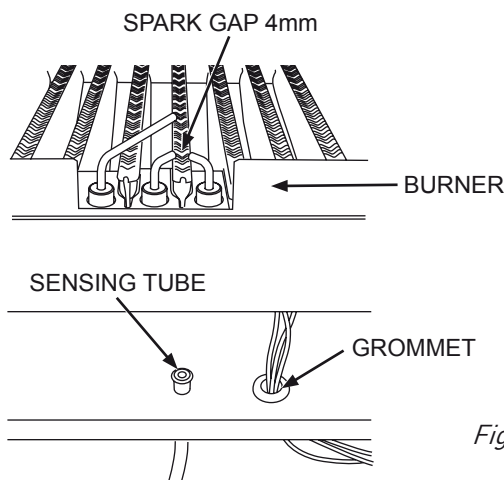

Figure 30
- Pull off the ignition and flame electrode leads from the PCB and remove the wires with grommet from the combustion chamber base. (Figure 30)